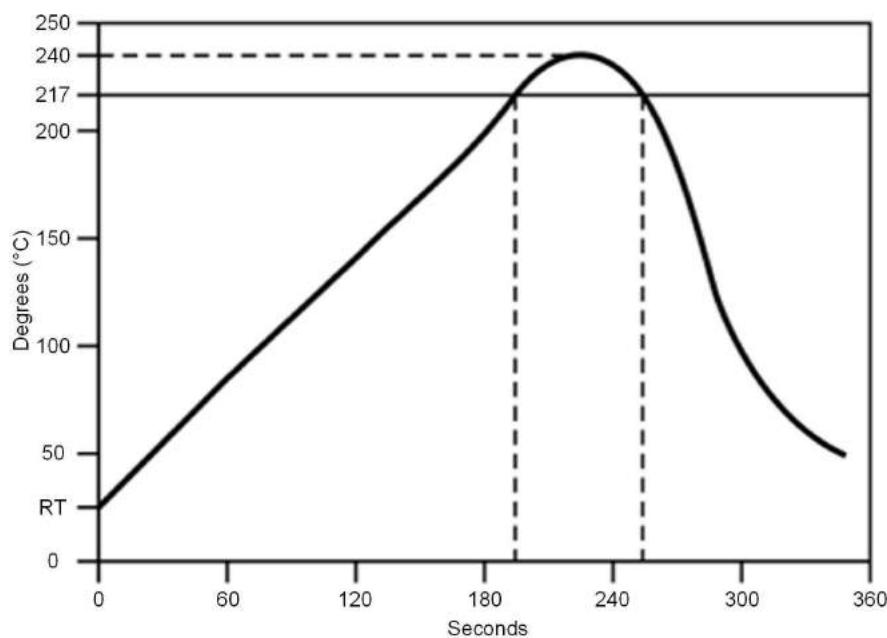

Figure 11. Temperature Profile for Evaluation of Solder Heat Resistance of a Component (at Solder Joint)
- Temperature measurement: Thermocouple  $d = 0.1$  mm to  $0.2$  mm CA (K) or CC (T) at soldering portion or equivalent method
- Allowable reflow soldering times: 2 times based on the reflow soldering profile (see Figure 11)
- Temperature profile: Reflow soldering will be done according to the temperature profile (see Figure 11)